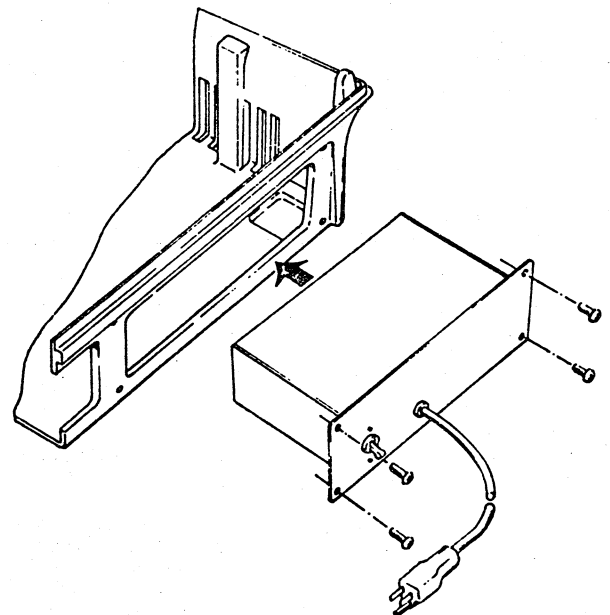

Figure 6-7. Ac Entry Panel Removal
To remove the ac power panel assembly (figure 6-7), perform the following:
9. Fasten the four screws (figure 6-7).